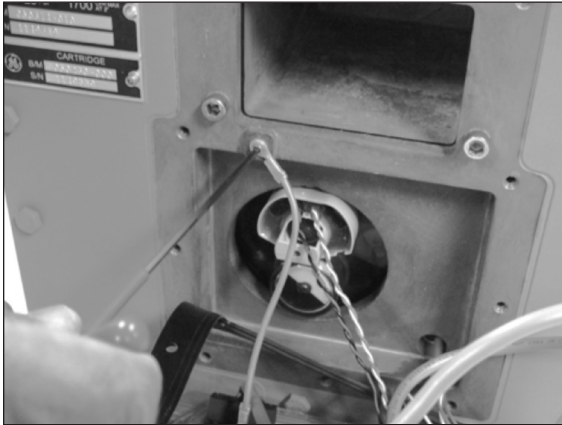

Figure 9.11 Example - Remove green ground wire
3. Use a 1/8" Allen wrench to remove the two (#10-24) screws on the AMR plate on the top of the meter as shown in Figure 9.10 Example. Gently loosen the cable gland nut on the back of the meter as shown in Figure 9.11 Example. Afterwards, gently pull the cable all the way out of the cable gland.
4. Use a 3/32" Allen wrench to remove the (#4-40) screw connecting the green ground wire as shown in Figure 9.11 Example.